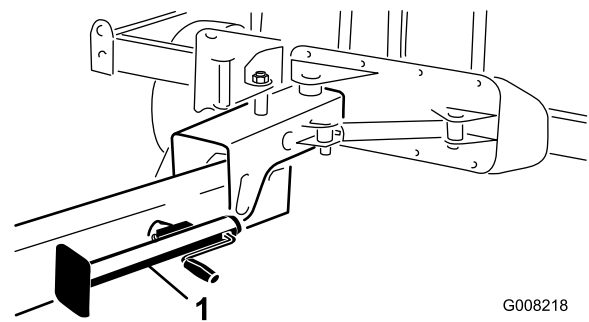

Figure 19
4. Raise the jack and secure it in the storage position (Figure 19).